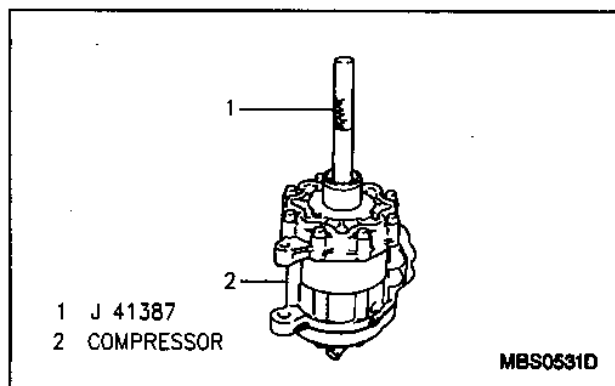

Figure 9—Installing J 41387
5. Compressor shaft seal using tool J 41387. Insert tool, turn until making contact with shaft seal notches and pull shaft seal out (Figure 9).